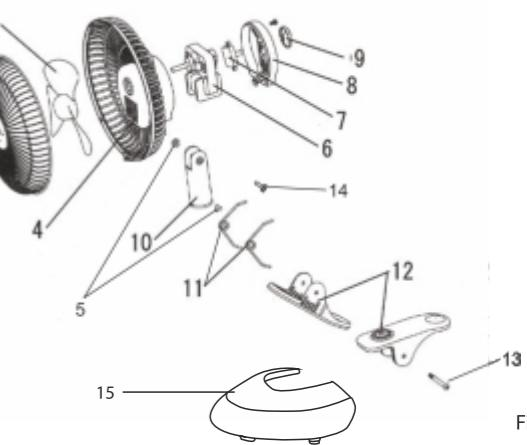

Fig. 1
**6. ASSEMBLY (see Fig. 1, page 7)**
1. Please, set the blade (3) on the motor (6) shaft
2. Please, interconnect front grill (2) and back grill (3); next step is fixing to grills together
3. Please, fix base (10) with clip (12) to the fan with screw «A»
4. In case of questions, please, check Fig. 1 once again. This model of fan can be assembled easy
First of all, you must disconnect fan from power grid. After that you can discover fan, opening front grill (2) to reach blade of fan (3) (please, use Fig. 1 to understand design of device clear). You should use soft cloth for cleaning. Please, be assured, that all plastic parts of fan are dry before fan assemblage! In case of need you can also remove dust from the grill, using delicate brush.